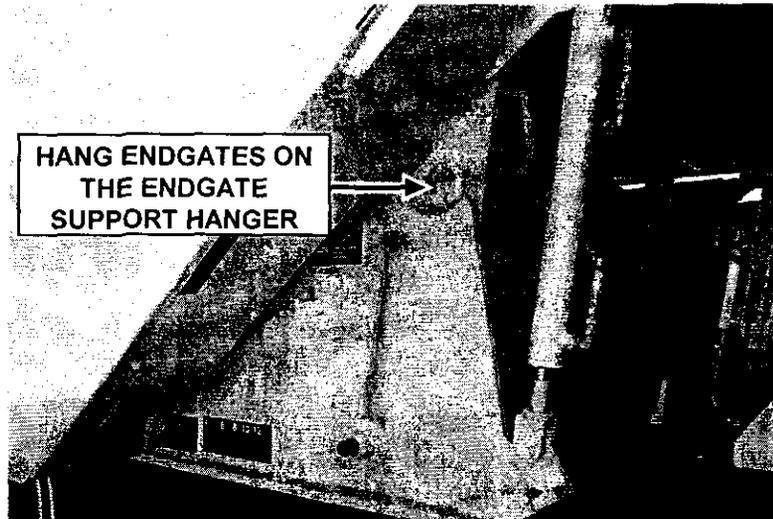

FIGURE 13
7. **Left and Right Endgates**: To prevent retained hydraulic pressure, lower the endgates to the ground before shutting the machine off. Another way would be to hang the endgates on the endgate support hangers and then shut the machine off (figure 13).